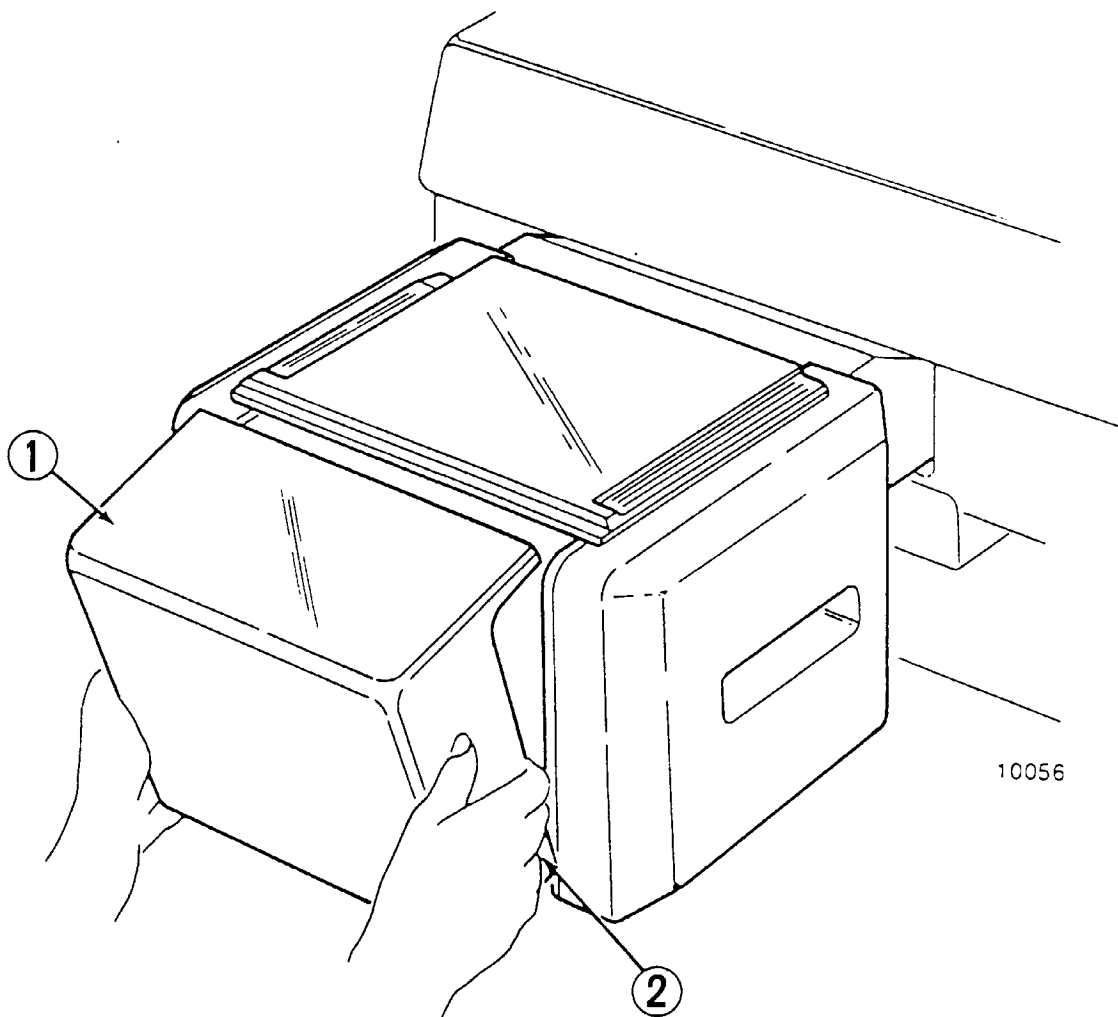

FIGURE 4-2. PAPER COVER REMOVAL
1. Open paper cover slightly (see Figure 4-2).